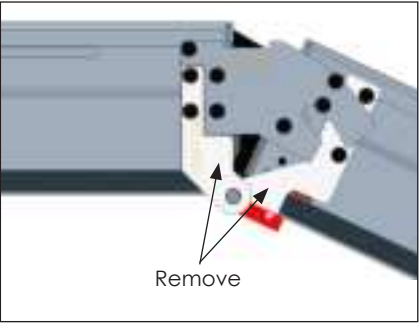
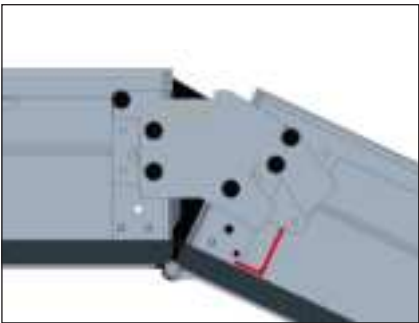

Figure 27: Remove Upper Hinge
Figure 28: Upper Hinge Removed
10. Loosen and remove the upper hinge after all TEK screws are tightened down. The hinge needs to be removed to allow the beverage shrouds to close completely. Refer to **Figure 27** and **Figure 28**.